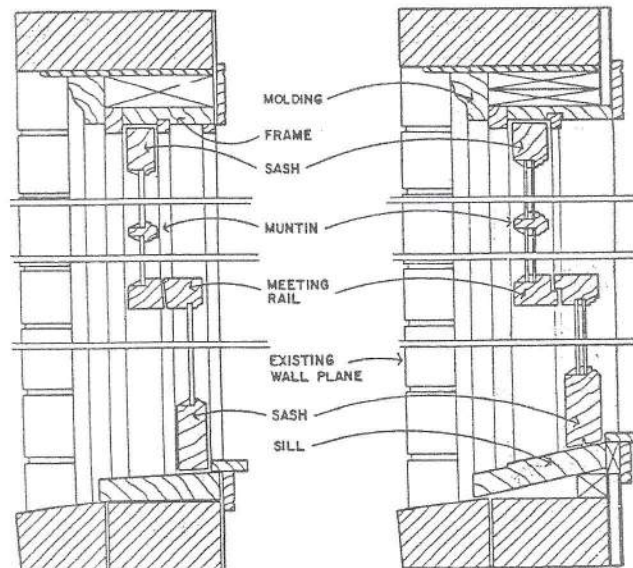

Figure 2
4. **Wall section drawings** illustrating the horizontal and vertical sections of all existing** and proposed replacement windows. These drawings should include proposed head, jamb, sill, and muntin section details, and relationship of the frame (if being replaced) to the wall (see figures 2 and 3).